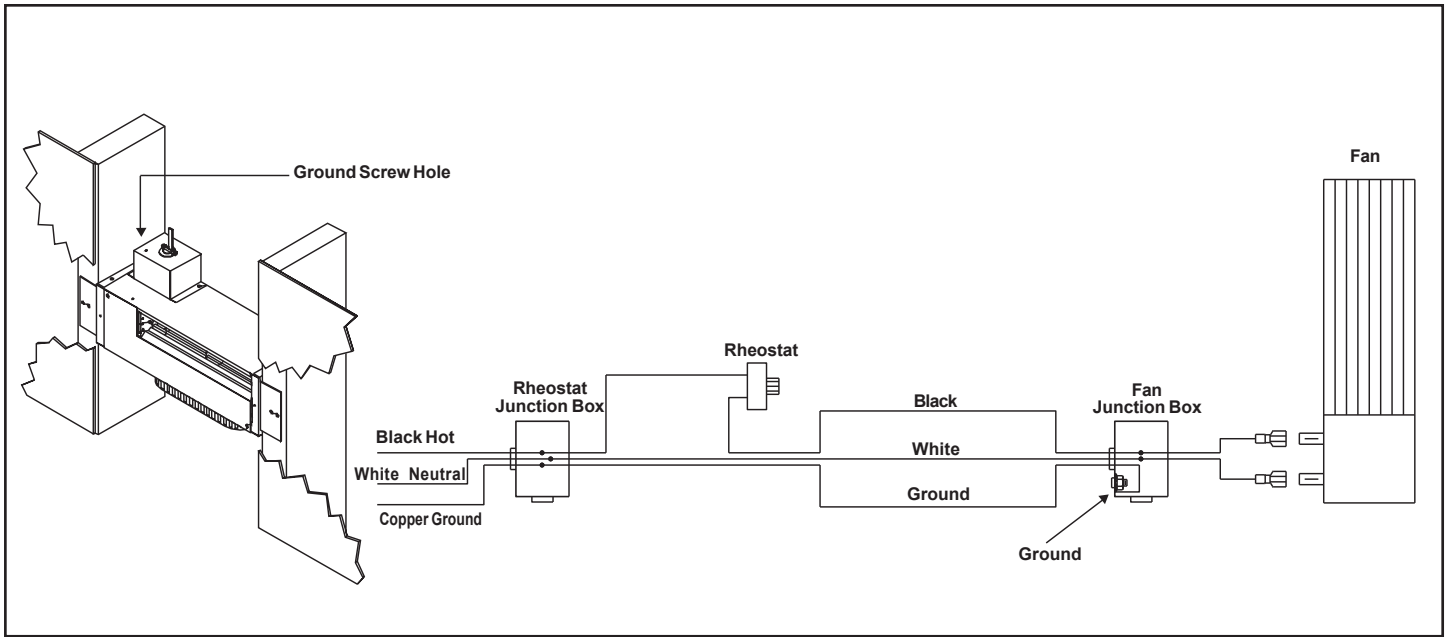

Figure 6
9. Wire 110 VAC service TO the wall Rheostat and FROM the wall Rheostat to the fan junction box. Use wire nuts to secure the 110 VAC service wires to the hot and neutral fan wires and screw the 110 VAC ground wire to the fan junction box. See Wiring Diagram - Figure 6.